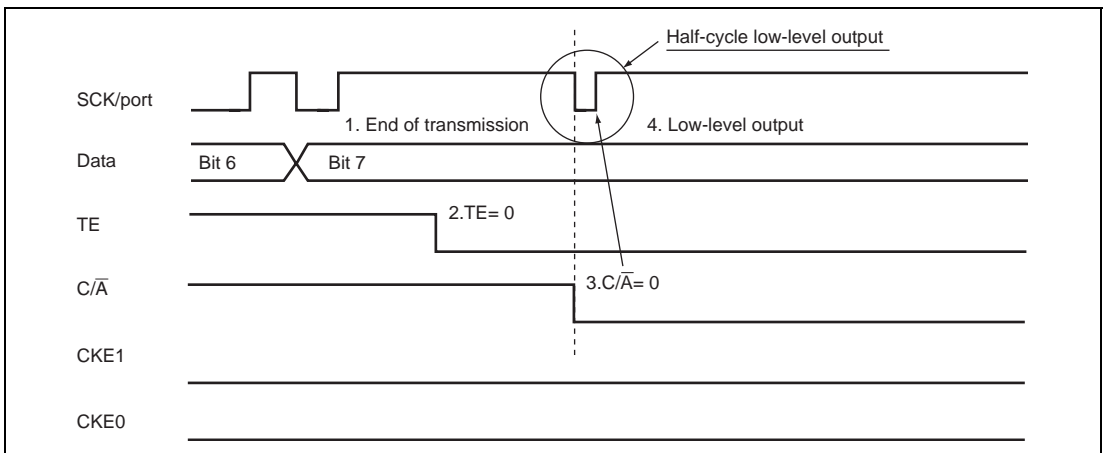

Figure 12.43 Operation when Switching from SCK Pin Function to Port Pin Function
4. Occurrence of low-level output (see figure 12.43)